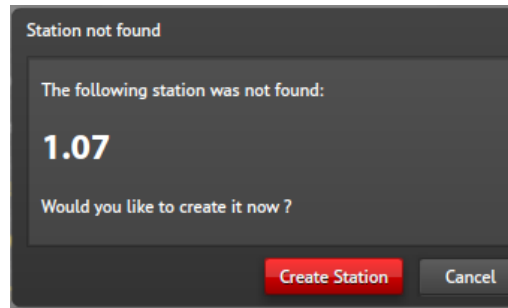

Figure 130. Station Not Found
- A prompt to add the station to the configuration if the station is not already in the configuration (see Figure 130).